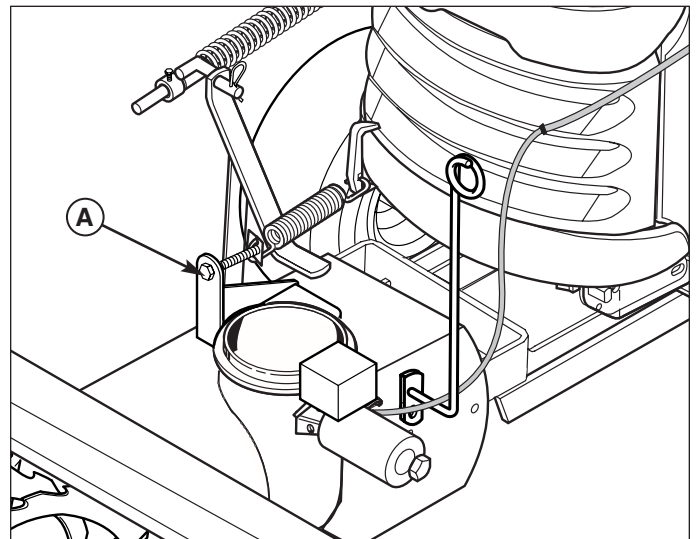

Figure 10. Lift Assist Adjustment
1. Tighten the lift assist bolt (A, Figure 10) to increase the amount of lift assist.